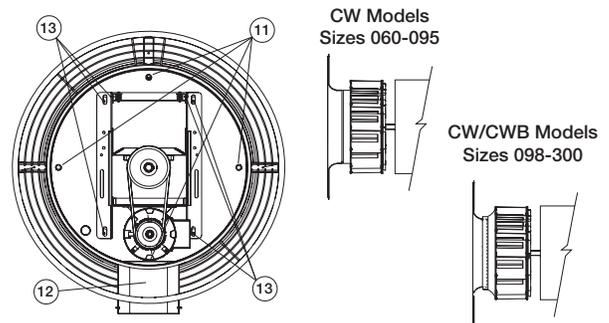

Figure 4
Removal of the entire power pack (motor, drives and wheel) for maintenance or cleaning can be accomplished by removing the breather tube (12) and fasteners (11). *Reference Figure 4.*